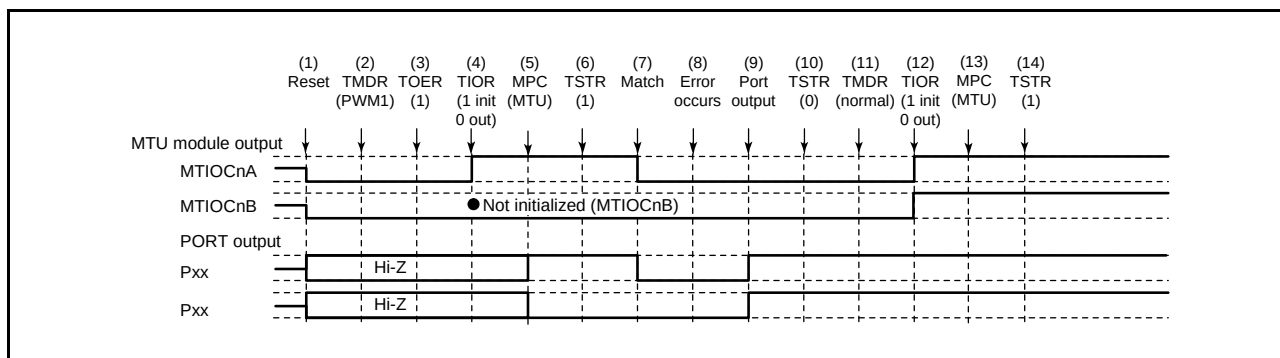

**Figure 19.149 Error Occurrence in PWM Mode 1, Recovery in Normal Mode**
Figure 19.149 shows a case in which an error occurs in PWM mode 1 and operation is restarted in normal mode after re-setting.
(1) to (10) are the same as in Figure 19.149.
(11) This step is not necessary when restarting in PWM mode 1.
(12) Initialize the pins with the TIOR register. (In PWM mode 1, waveforms are not output to the MTIOCnB (MTIOCnD) pins. To output a specified level, make necessary settings for general output ports in the port direction registers (PDR) and port output data registers (PODR) of the I/O ports.)
(13) Set MTU output using the MPC and port mode registers (PMR) corresponding to the I/O ports.
(14) Restart operation by setting the TSTR register.
(11) Set PWM mode 2.
(12) Initialize the pins with the TIOR register. (In PWM mode 2, a waveform is not output to the pin that corresponds to the TGR register used as a period register. To output a specified level, make necessary settings for general output ports in the port direction registers (PDR) and port output data registers (PODR) of the I/O ports.)
(11) Set the phase counting mode.
(12) Initialize the pins with the TIOR register.
(11) Set normal mode to initialize the normal mode waveform generation block.
(12) Initialize the PWM mode 1 waveform generation block with the TIOR register.
(13) Disable operation of the PWM mode 1 waveform generation block with the TIOR register.
(14) Disable output in MTU3 and MTU4 with the TOERA register.
(15) Select the complementary PWM output level and enable or disable cyclic output with registers TOCR1A and TOCR2A.
(16) Set complementary PWM mode.
(17) Enable output in MTU3 and MTU4 with the TOERA register.
(18) Set MTU output using the MPC and port mode registers (PMR) corresponding to the I/O ports.
(19) Restart operation by setting the TSTR register.